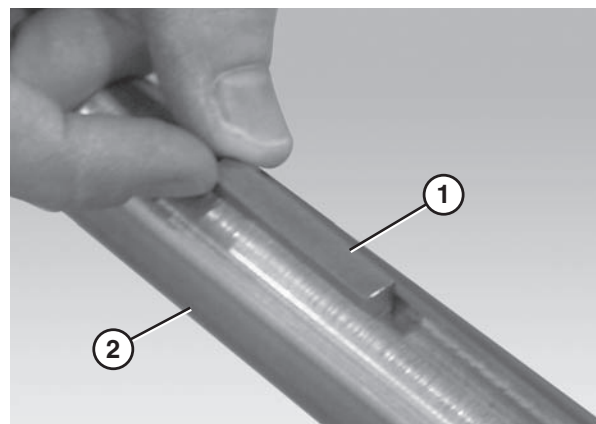

Figure 63
5. Remove the drive spindle key (**Figure 63, item 1**) from the drive spindle keyway (**Figure 63, item 2**).